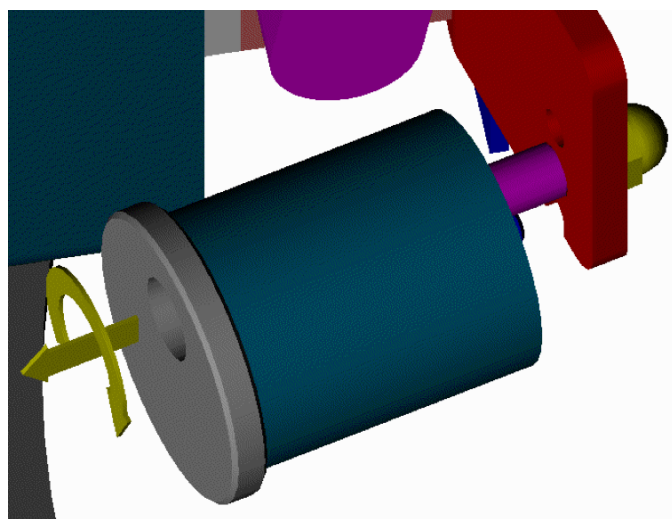

Figure 1: Chime Roller Adjustment.
The unit requires minimal setup. The cutting mechanism has been designed to cut through most dents, eliminating the need to hammer or otherwise reshape the chime to its original contour. The cutting wheel is designed to cut under the chime on the fiber drum bottom (closed end) and also under the internal form on the top and bottom of the drum (see Fig. 1). There is only one simple adjustment for height, making it easy to use for both top and bottom chime.
1. Rotate the chime rollers in their lowest position by pulling the chime rollers out, rotating to their lowest position, and locking the rollers in place (see figure 1). Arrows on the chime rollers illustrate the movement.
1. Place the unit on a table and adjust the chime rollers to their highest position which lowers the cutting wheel (see figure 1).